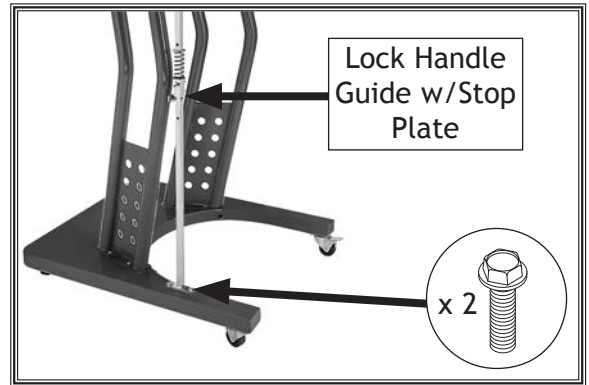

Figure 11. Lock handle guide with stop plate attached to base.
- Attach lock handle guide with stop plate to left side of base stand, and finger-tighten with (2) $\frac{5}{16}$ "-18 x $\frac{1}{2}$ " flange bolts (see **Figure 11**).